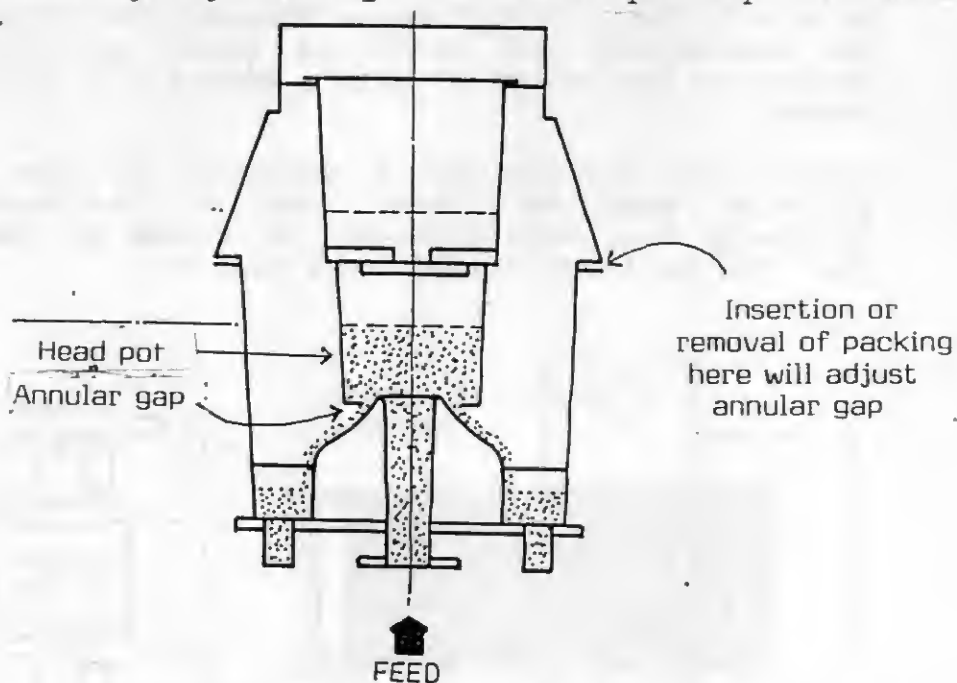

Fig. 6 The Static Distributor
b. The Static Distributor (See fig. 6)